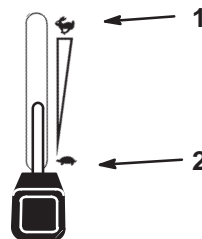

Figure 12
5. Move the throttle control to the fast position before starting a cold engine (Fig. 12).
1. Push the PTO to the off position (Fig. 12).
2. Move the throttle lever midway between the slow and fast positions (Fig. 12).